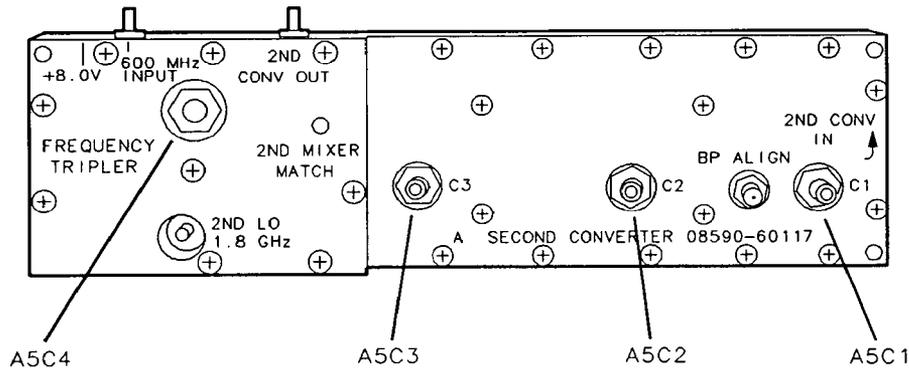
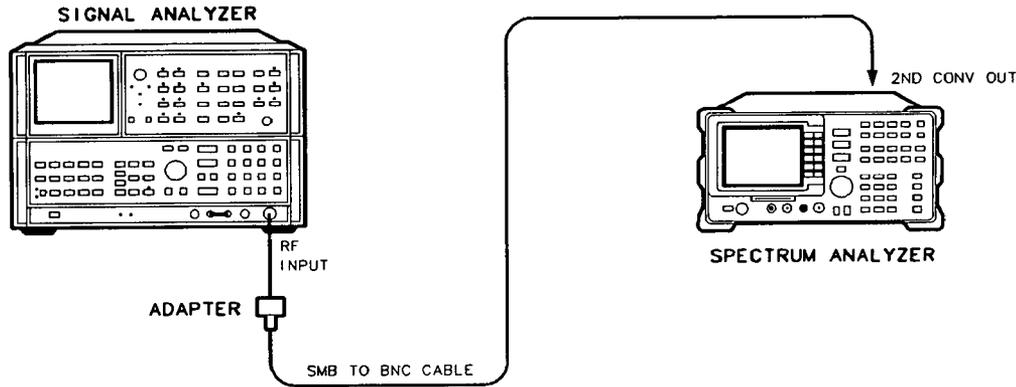

Figure 2-19. Second Converter Adjustment Location
Figure 2-21. Second Mixer Match Adjustment Setup
5. Use the tuning tool to adjust A5C4 FREQUENCY TRIPLER (see Figure 2-19) for maximum signal amplitude as observed on the spectrum analyzer. Readjust the reference level of the HP 8566A/B as necessary to keep the signal on screen. The 1.8 GHz signal should be -19 dBm to -24 dBm.
15. After removing W10, connect the HP 8566A/B to the 2ND CONV OUT port (see Figure 2-19) using the test cable. See Figure 2-21.
17. Adjust A5 2ND MIXER MATCH (refer to Figure 2-19) for maximum amplitude as displayed on the HP 8566A/B. Adjust the reference level as necessary to keep the signal near top-screen.